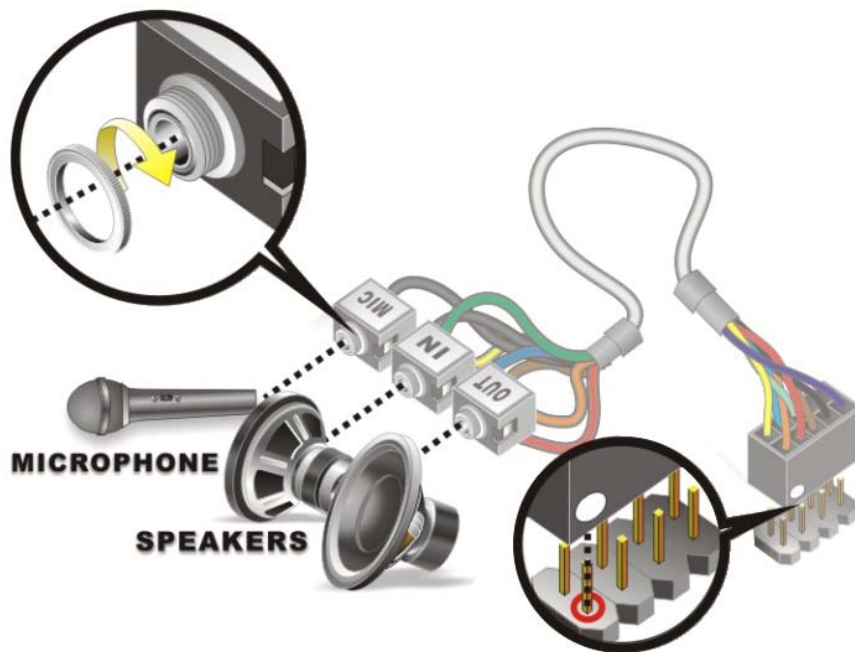

Figure 5-10: Audio Kit Cable Connection
Step 2: **Align pin 1.** Align pin 1 on the on-board connector with pin 1 on the audio kit connector. Pin 1 on the audio kit connector is indicated with a white dot. See **Figure 5-10**.